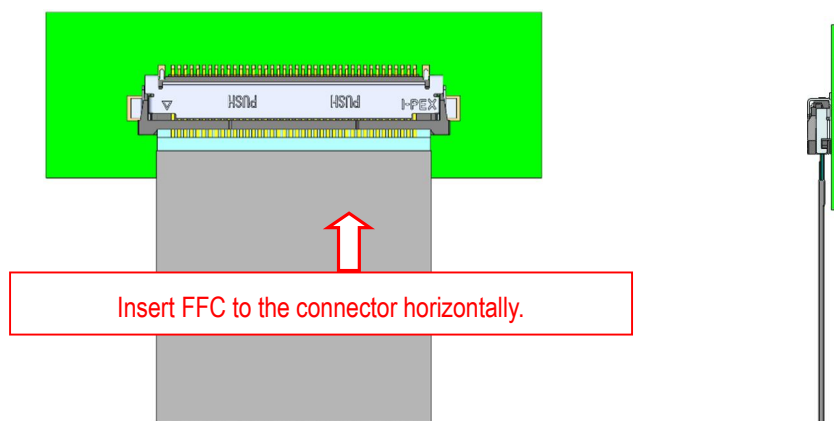

Fig.3-3 FFC Inserting Method 2
- ② Insert the FFC to the connector horizontally and deeply as shown in Fig.3-3.